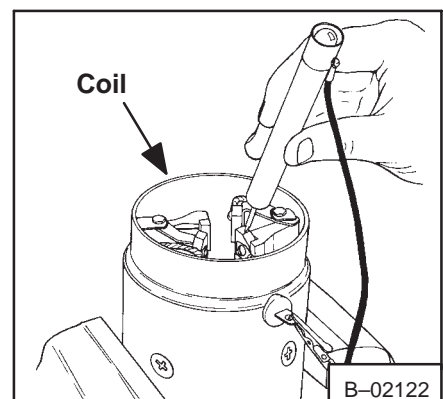

Fig. 6-16 Checking Field Coil Wires
6. Connect a test light from the outside connection to each of the inside connections (Fig. 6-16). If the light doesn't come on, the field coils have a defect.